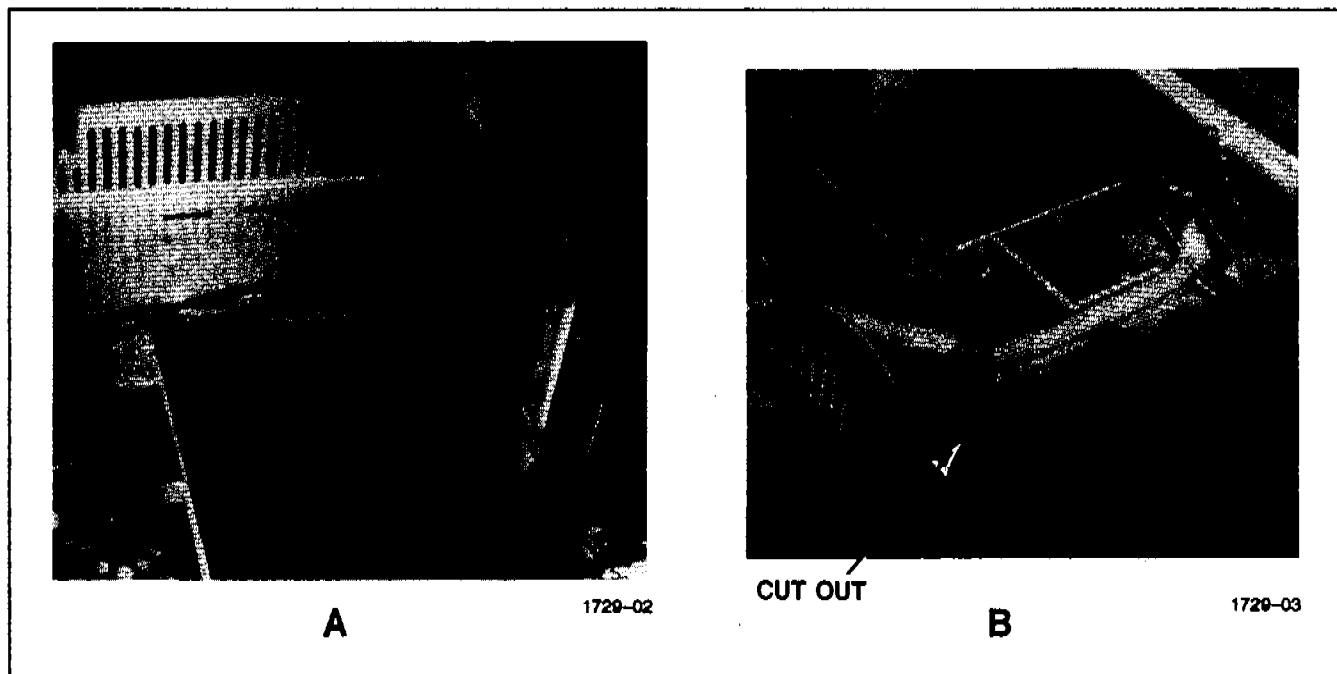

Figure 8
7. Route the flow manifold block tubing across the oven as show in figure 8, securing it in place with the metal clips that are already installed on the oven. Route the tubing through the cutout and leave extra tubing near the detector.